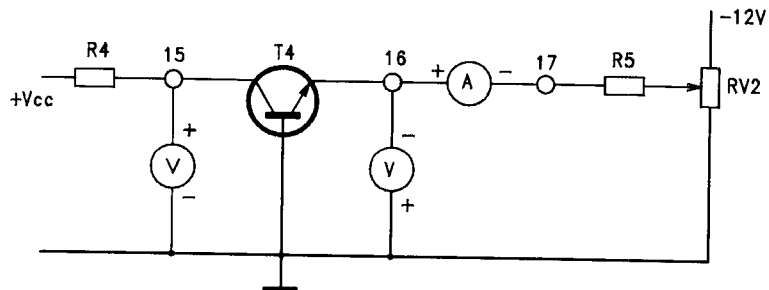

fig.B17.6
- Connect the instruments as shown in the diagram of fig.B17.6. The voltages can also be measured with the oscilloscope